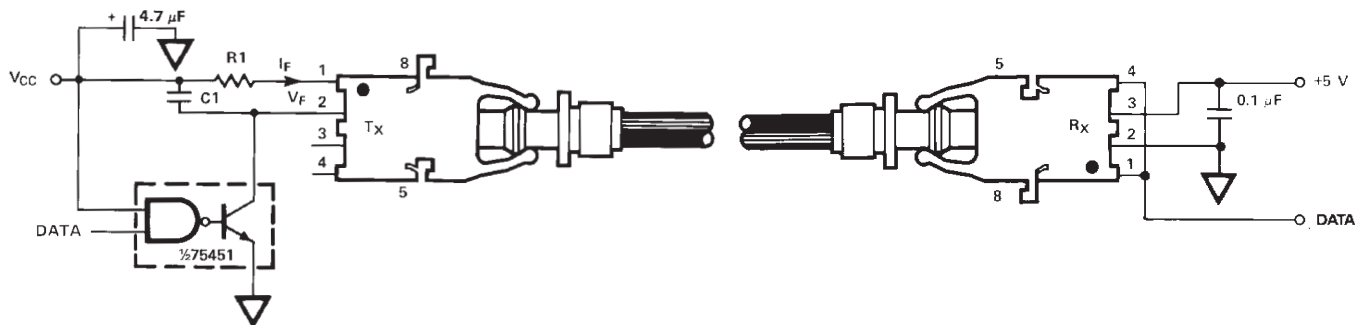

Figure 11. Required 1 MBd interface circuit
The HFBR-25X2Z receiver cannot be overdriven when using the required interface circuit shown in Figure 11
- The LED drive circuit of Figure 11 is required for 1 Mb/d operation of the HFBR-25X2Z/25X4Z.